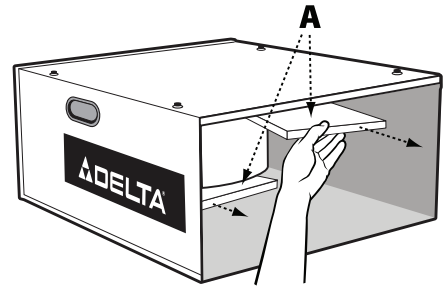

FIG. 2C
4. Remove styrofoam blocks (A) Fig. 2C and replace filters.